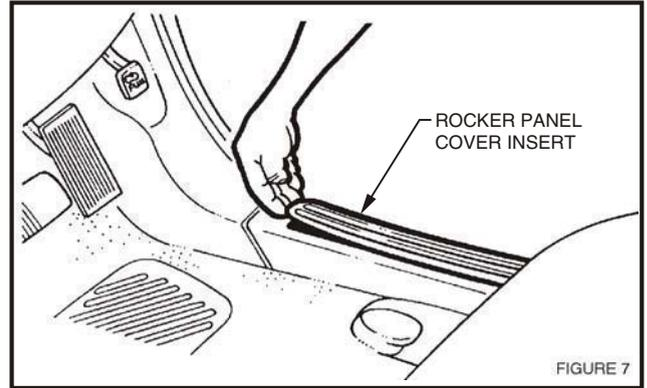

FIGURE 7
- 11. Remove RH rocker panel cover insert, refer fig. 7.